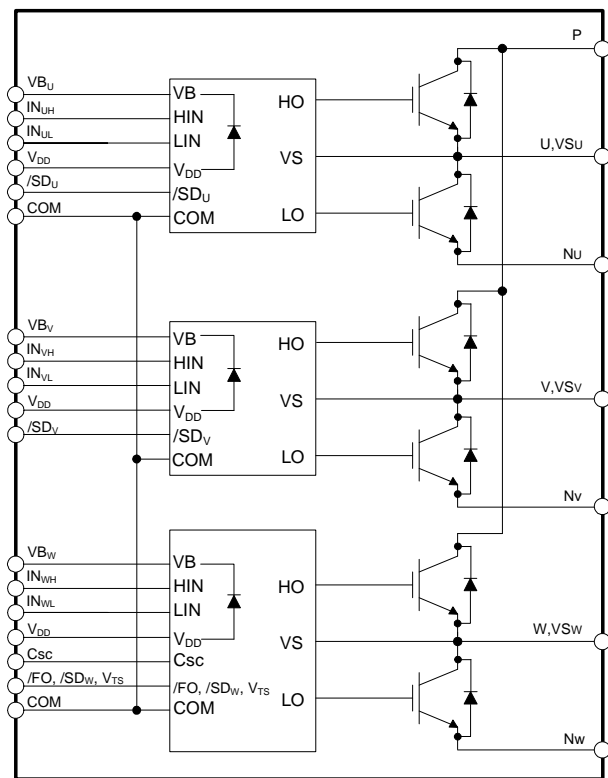

Figure 3. Internal Block Diagram
- 600 V - 10 A IGBT inverter for three phase DC / AC power conversion (*Please refer to Figure 3*)